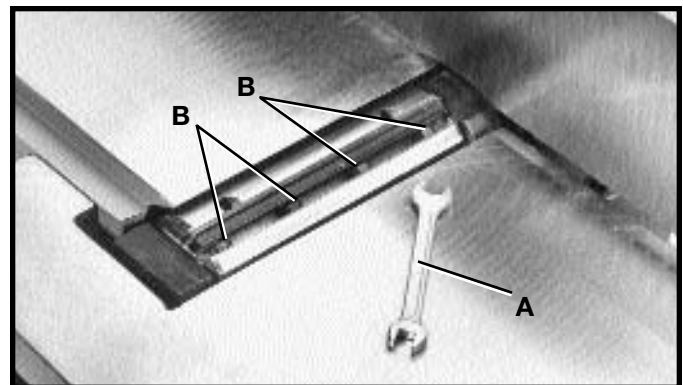
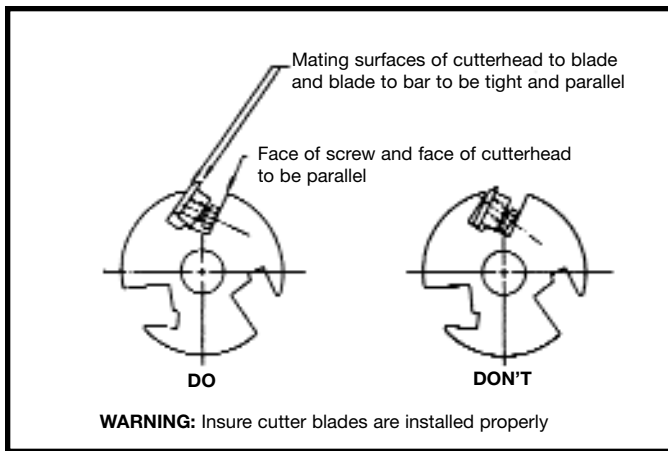

Fig. 57
Fig. 59
3. Using 8 x 10 mm wrench (A) Fig. 57, slightly loosen the four locking screws (B) in each knife slot by turning the screws (B) clockwise. This relieves stress in the cutterhead.
4. Loosen screws (B) Fig. 57, further and remove knife and knife locking bar.
⚠ WARNING: CARE MUST BE TAKEN WHEN INSERTING THE KNIVES AS THE CUTTING EDGES ARE VERY SHARP. Push the knife down as far as possible and snug up the screws (B) Fig. 57, by turning each screw counterclockwise just enough to hold the knife in position. Replace the remaining two knives in the same manner. **NOTE: KNIVES MUST BE INSTALLED CORRECTLY AS SHOWN IN FIG. 59.**